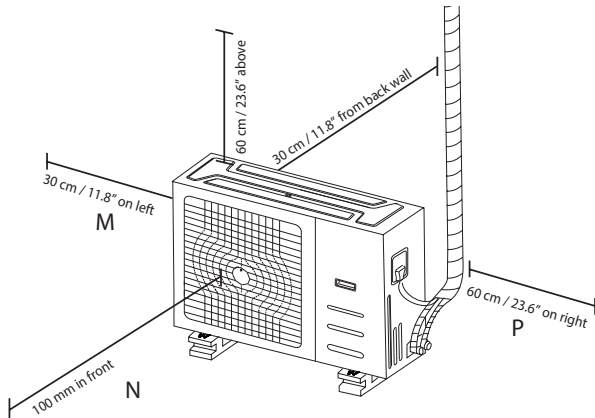

Fig. 5.10
- Mount on a firm, stable base in accordance with the specification of the outdoor units. (Refer to Fig. 5.10).
NOTE: The minimum distance between the outdoor unit and walls described in the installation guide does not apply to airtight rooms. Be sure to keep the unit unobstructed in at least two of the three directions (M, N, P) (See Fig. 5.10)